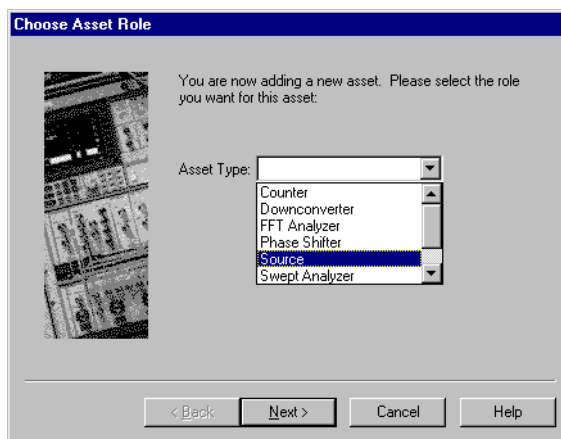

Figure 5-4 Select **Source** as Asset Type
- 6 From the **Asset Type** pull-down list in **Choose Asset Role** dialog box (Figure 5-4), select **Source**, then click the **Next** button.